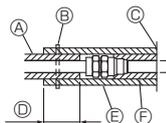

Fig. 4-1
- Be sure to add insulation work to water piping by covering water pipework separately with enough thickness heat-resistant polyethylene, so that no gap is observed in the joint between indoor unit and insulating material, and insulating materials themselves. When insulation work is insufficient, there is a possibility of condensation, etc. Pay special attention to insulation work in the ceiling plenum. [Fig.4-1]